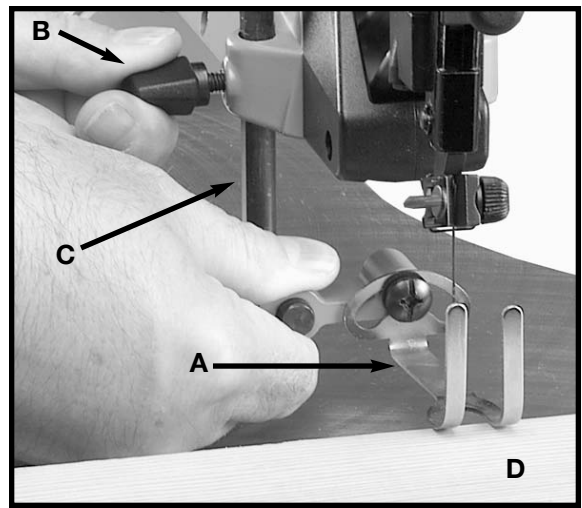
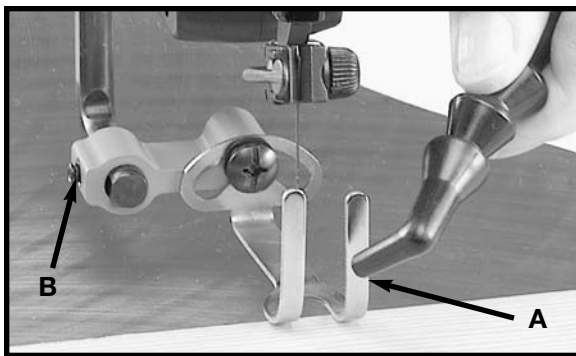

Fig. 23
Fig. 24
The holddown (A) Fig. 23, should be adjusted so it contacts the top surface of the work (D) being cut by loosening lock knob (B) and moving holddown rod (C) up or down. Then tighten lock knob (B). The holddown (A) Fig. 23, may be adjusted front to rear, by loosening set screw (B) Fig. 24, and positioning the holddown in the desired location. Once the holddown is in the desired location, tighten set screw (B), Fig. 24.
The dust blower (A) Fig. 24, may be positioned to direct air to the most effective point on the cutting line.